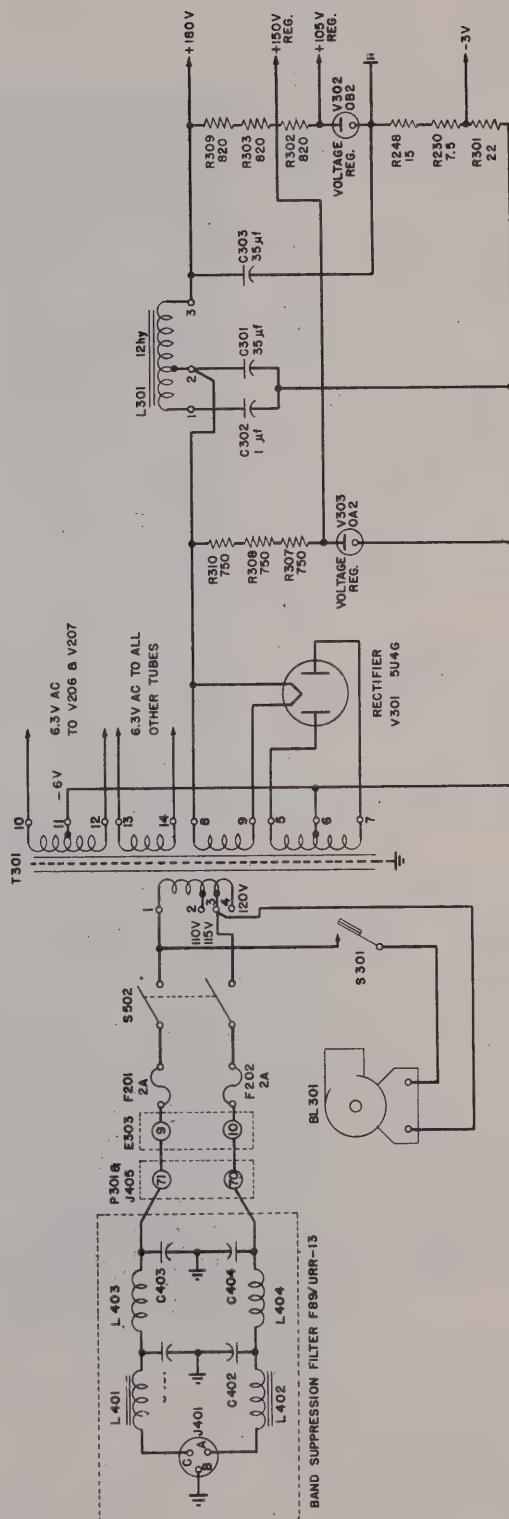
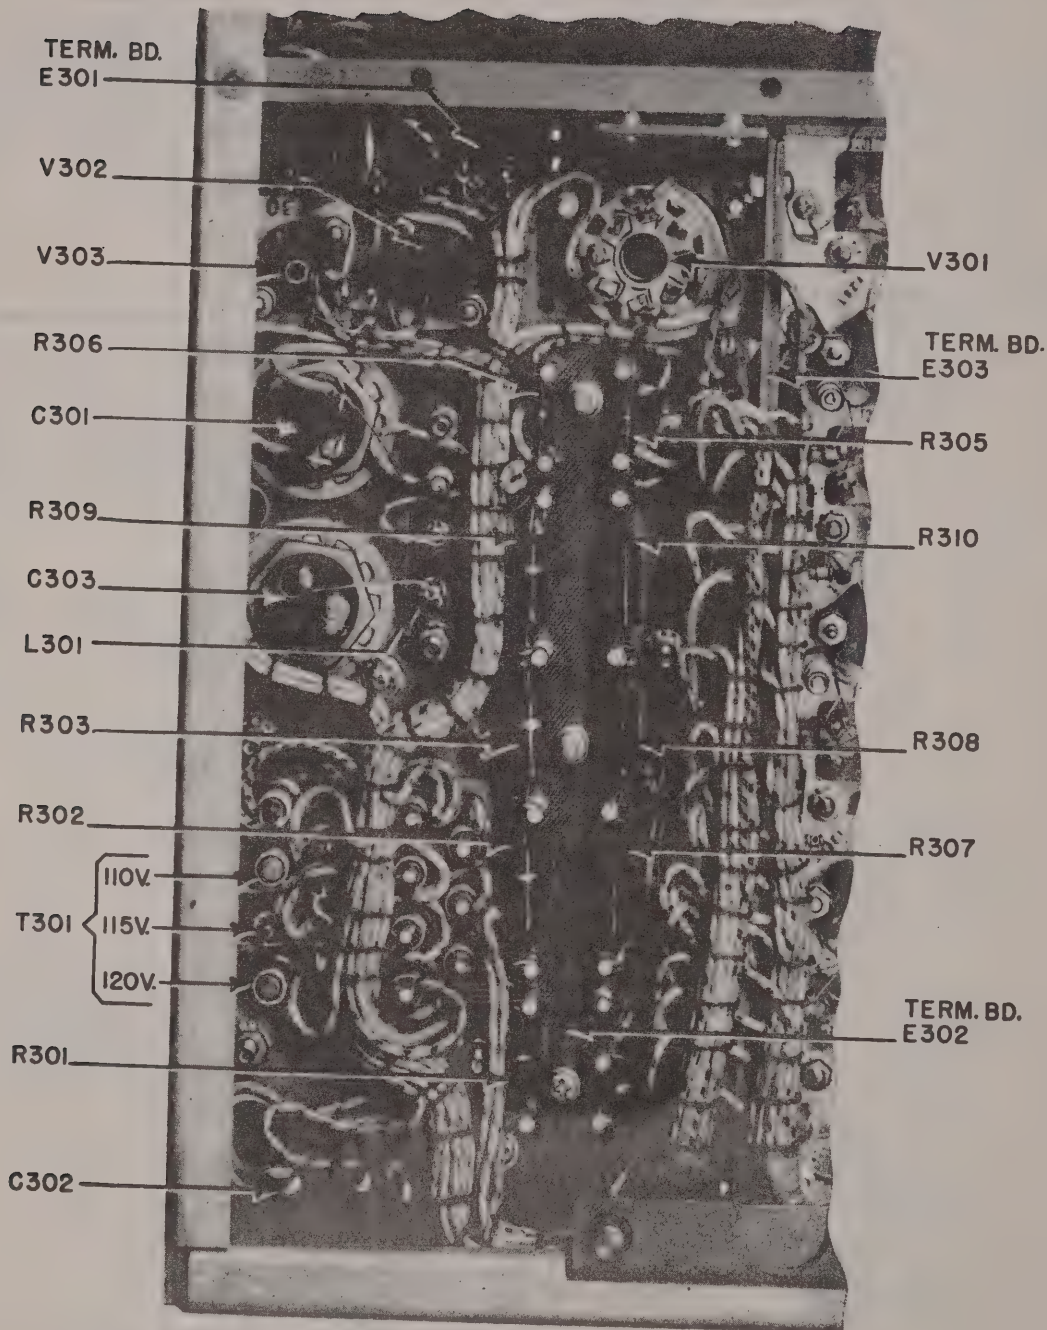

Figure 2-14. Simplified Schematic—Power Supply Section
Figure 2-15. Underside of Power Supply Section
b. POWER SUPPLY. A single power transformer (T301) supplies heater power for all tubes and, after rectification, high voltage d.c. for plates and screens, as well as a small negative voltage used for bias. See the power supply explanatory schematic diagram, figure 2-14, and the photograph, figure 2-15.
The power input receptacle (J401) is wired to the primary of power transformer T301 through the band suppression filter. The primary of this transformer is tapped to permit operation of the receiver from a 60 cps power source of 110, 115 or 120 volts potential (see figures 2-15 and 2-14). Terminals 1 and 2 should be used for a 110-volt input, terminals 1 and 3 for a 115-volt input and terminals 1 and 4 for 120-volts. In the equipment, as shipped, this transformer is wired for 115-volt operation.